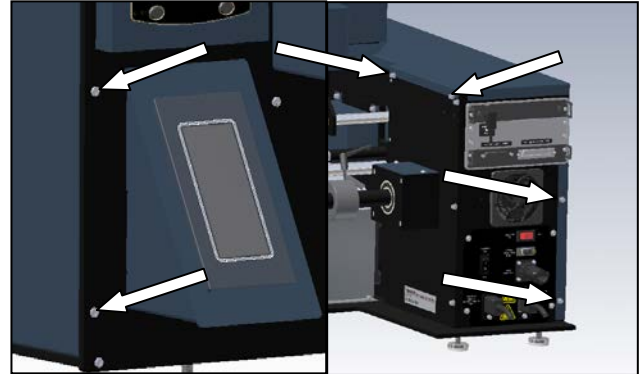

Figure 3-82. Frame Cover Screws
1. Remove the six screws holding the Frame Cover, set screws and Frame Cover aside (Figure 3-82).